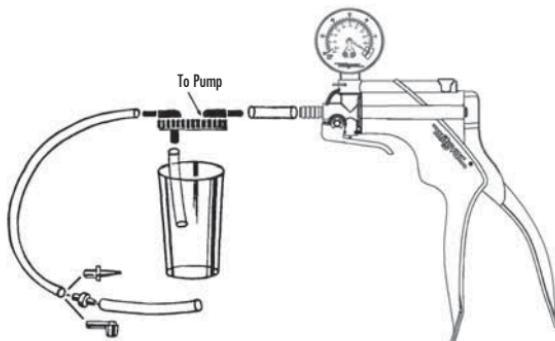

FIGURE 16: BRAKE BLEEDING KIT
3) Slip 1½" of tubing between the pump and the lid of reservoir jar at port marked "TO PUMP" (FIGURE 16).